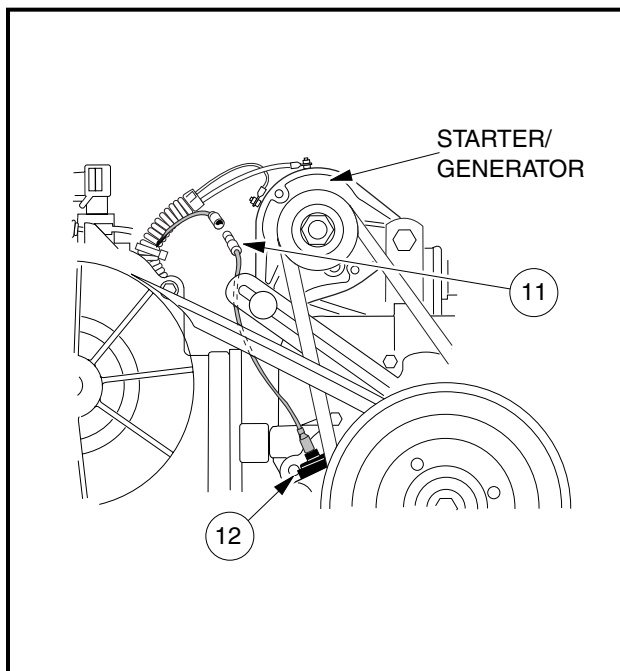

Figure 3-36 Oil Level Sensor Wire
1. Remove yellow jumper wire (11) from cord connector (12) (**Figure 3-36, Page 3-20**).